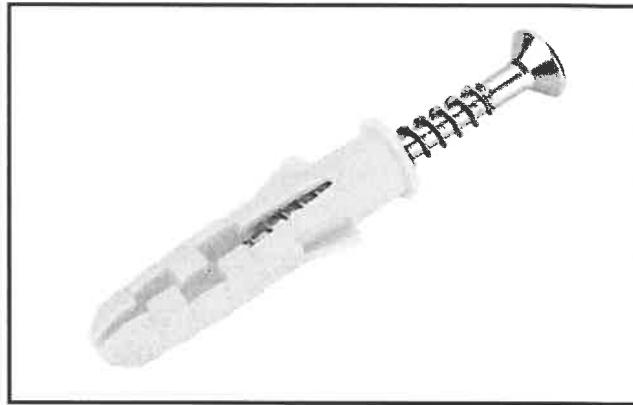

FIGURE 1.7
- 1.7 FIGURE 1.7 below shows a joining fixture that is commonly used.